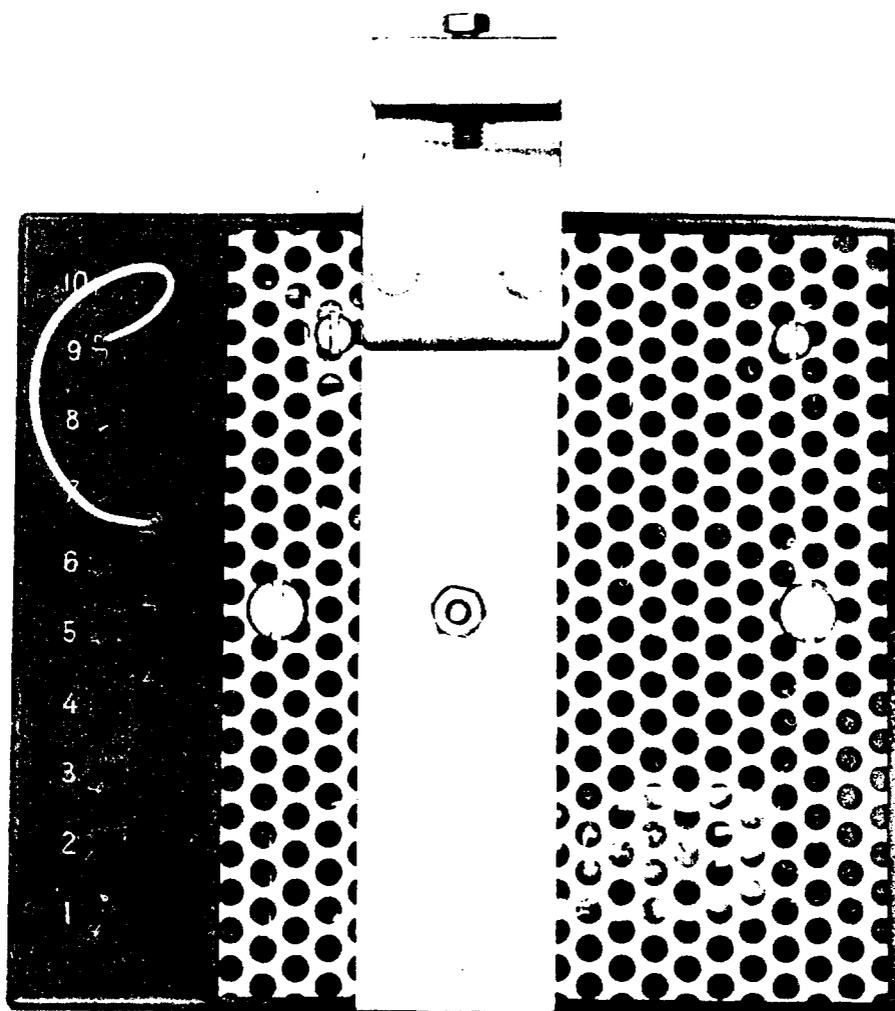

Figure 3. Use of PBX Jumper Straps (Model 104)
**6.01** When used in a dial PBX, strapping is required when the dial PBX is trunked to a central office which is equipped for TouchTone®. A strapping field to accommodate this requirement is located on the back of the Converter. (See Figure 3)
**7.02** In most Strowger installations, the shelf iron on which the Converter is to be located is positioned such that the Converter can be mounted directly in the configuration as received from the factory. However, in some vintages of equipment, the angle iron is located toward the lower portion of the switch, and therefore, requires repositioning of the Converter mounting bracket. This is easily accomplished by removing the ¼" nut at the rear of the Converter, rotating the bracket 180° and retightening the nut. (Figure 3)